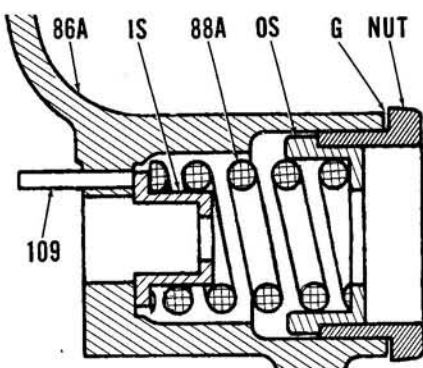

Fig. 200 — Cross-sectional view showing model "New FSM" main control spring. Refer to text for procedure to adjust spring.
With the spring inner seat (IS—Fig. 200), spring (88A) and outer seat (OS) installed in lift cover, install retainer nut without any shims between nut and lift cover and turn nut in until all end play is removed from spring and seats. Then, using a